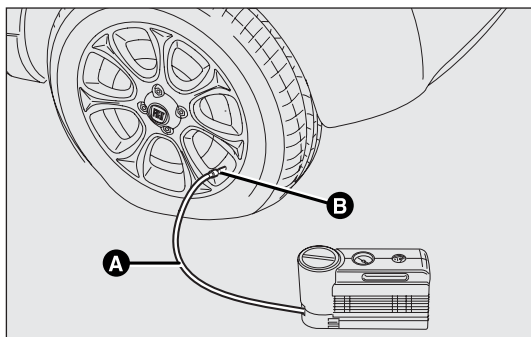

fig. 158
- ☐ Make sure the handbrake is on. Unscrew the tyre valve cap, take out the flexible filler tube A-fig. 158 and tighten the ring nut B on the tyre valve;